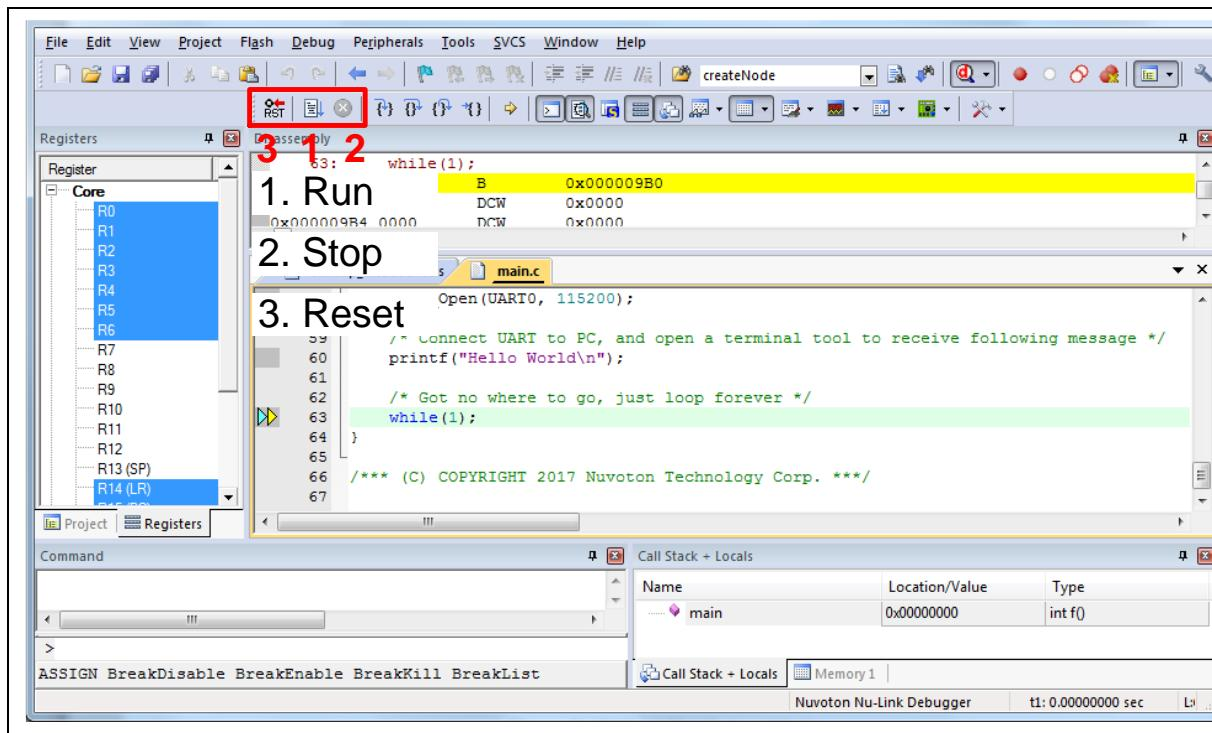

Figure 4-13 Keil MDK Debug Mode
4. Figure 4-13 shows the debug mode under Keil MDK. Click “Run” and the debug message will be printed out as shown in Figure 4-14. User can debug the project under debug mode by checking source code, assembly language, peripherals' registers, and setting breakpoint, step run, value monitor, etc.